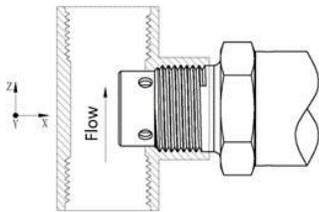

Figure 2. Installation Method (1)
- Water flowing from the bottom up in the pipe keeps the conductivity cell flooded and prevents air bubbles and air pockets while ensuring accurate measurement. As shown in Figure 2.